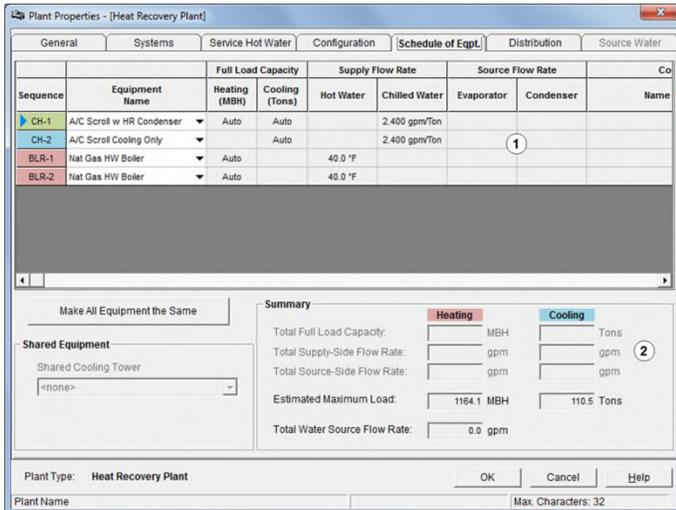

Figure 12.
The Schedule of Equipment Tab (Figure 12) is used to select the individual chillers and boilers used in the plant:
- The **Equipment Table** (see 1 in figure) contains one row for each chiller or boiler in the plant. In the example in Figure 12 there are two chillers, color coded as blue, and designated as CH-1 and CH-2. There are also two boilers, color coded as red, and designated as BLR-1 and BLR-2. If you’ve previously defined the chiller and boiler equipment (as in Step 3 above), these items will appear on the drop-down list and can be selected. If the equipment has not yet been defined, you can select the “create new chiller” or “create new boiler” option in the list to create and link the equipment.